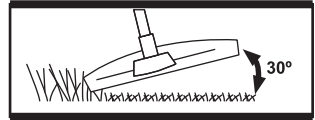

Fig. 15a
- 5). Hold the trimmer head just above the ground at an angle of approximately 30°. (See Fig. 15a)